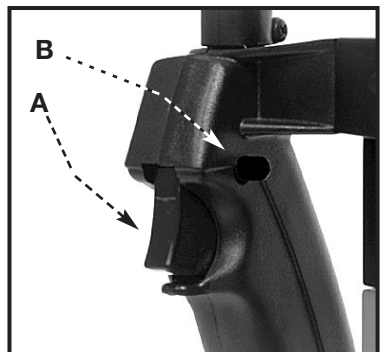

Fig. 11
1. Squeeze the trigger switch (A) Fig. 11 to start the motor. Release the trigger switch to stop the motor.
2. To allow the motor to run continuously, press the trigger switch (A), push the lock button (B) Fig. 11, and release the trigger switch.
1. release the trigger switch (A) Fig. 11.